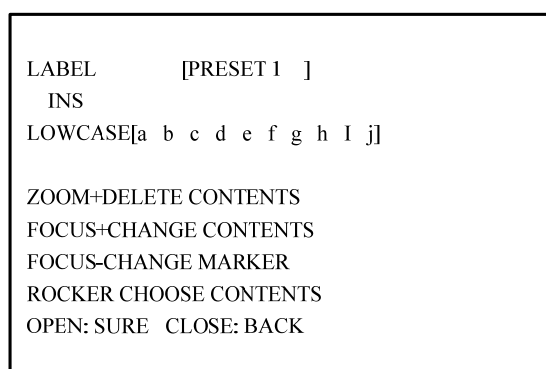

Figure 3.3.15
- Press the FOCUS+ button to switch input characters among numbers, lowercases, capitals and symbols. Refer to Figure 3.3.15. Move the Left and Right buttons to position the cursor beside a character and press FOCUS+ to enter selection.